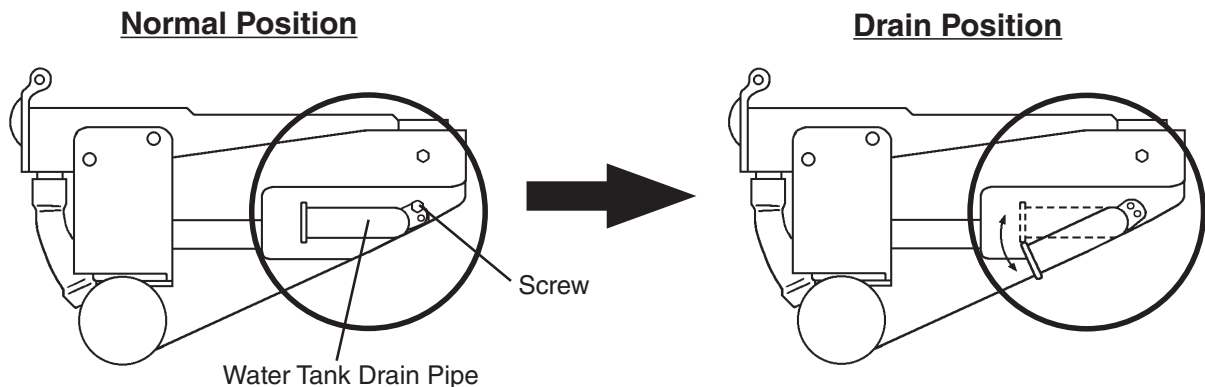

Fig. 2
- 3) Remove the screw, then move the water tank drain pipe to the drain position. See Fig. 2. Use the screw to secure the water tank drain pipe in the drain position.